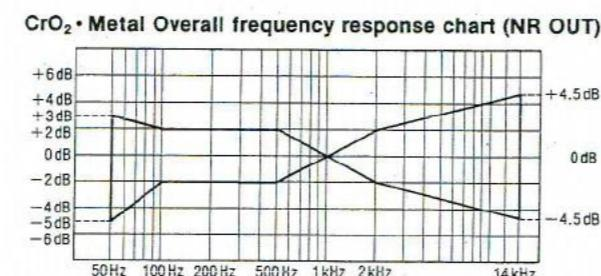

Fig. 9
<p>Fig. 9</p>
- Assure that the level is within the range shown in Fig.9.